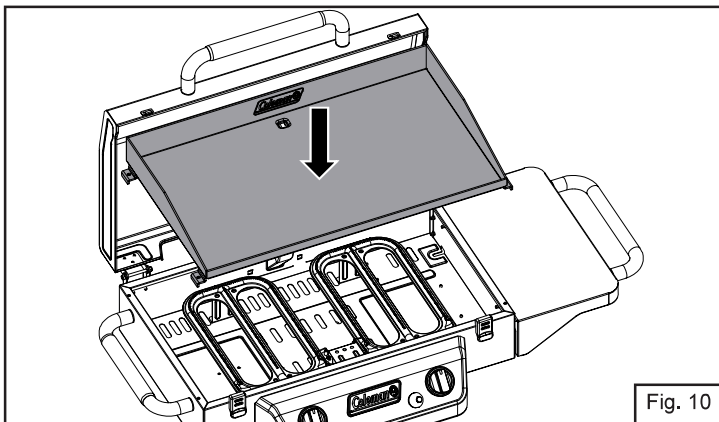

Fig. 10
10. Place the griddle face up on the appliance (Fig. 10).